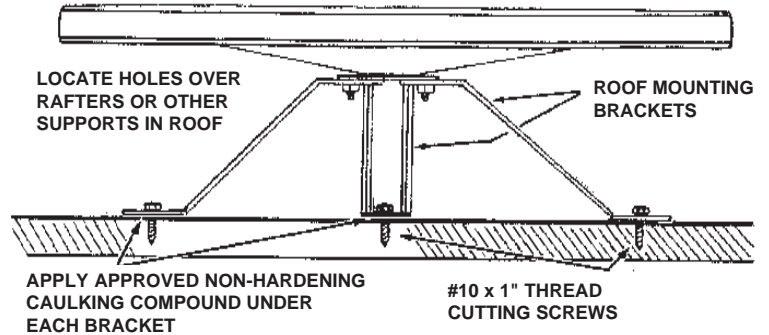

FIGURE 6
STEP 5. Drill six 1/8" pilot holes as shown in Figure 6. Apply non-hardening silicone caulking compound around holes under each bracket. Attach antenna to roof with #10 x 1" thread cutting screws.